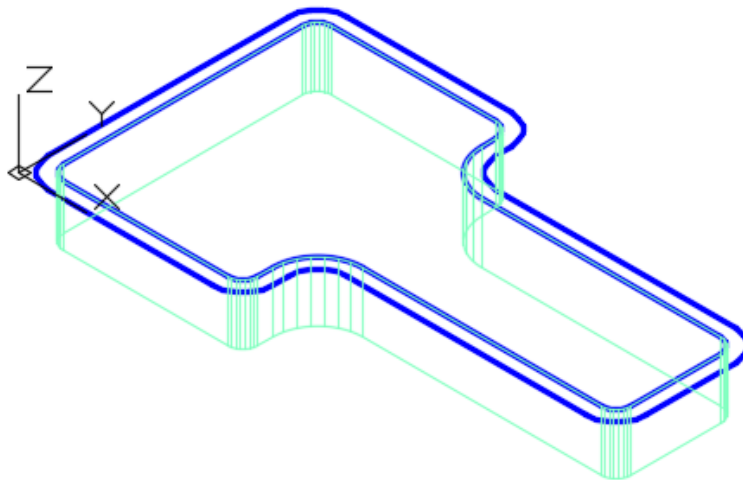

Figure Step 11
Step 11 Extrude the inner pline 20 mm in the negative Z. (Figure Step 11)